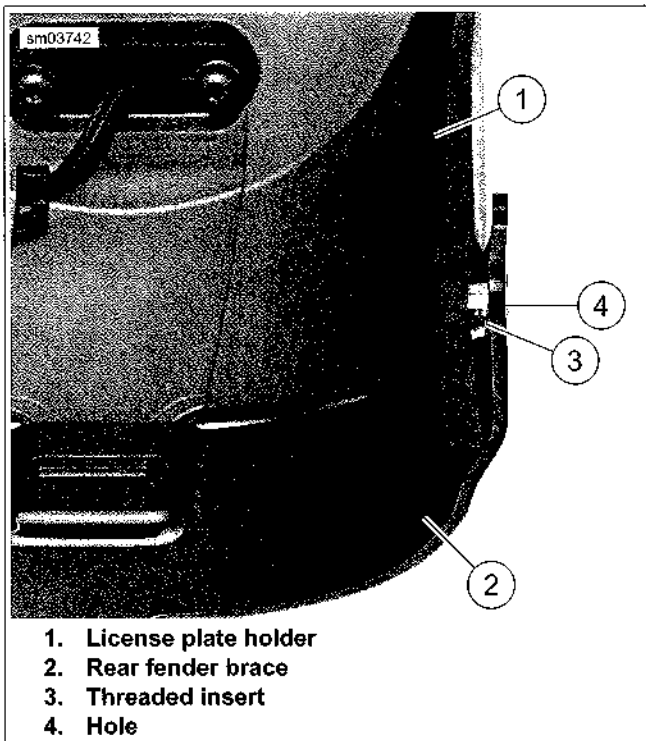

Figure 6-58. License Plate Holder and Rear Fender Brace:
8. See Figure 6-58. Make sure license plate holder threaded inserts (3) fit into holes (4) in fender brace (2). Tighten to 132-216 in-lbs (14.9-24.4 Nm).